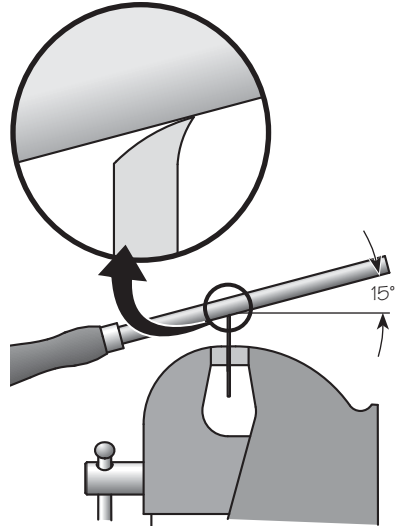

Figure 4: Burnishing.
Step 3 — Burnishing: With the blade held firmly in a vise, use a burnisher (the Veritas Tri-Burnisher 05K32.01 is well suited) to create a hook as shown in **Figure 4**. Use three or four firm strokes at the same angle as the bevel. Raise the burnisher handle slightly and take three or four more strokes. Finish by taking three or four strokes with the burnisher 15° from horizontal as shown in **Figure 4**. The first few times you do this, sight against a reference tool such as a sliding bevel or engineer’s protractor set to the desired angle.